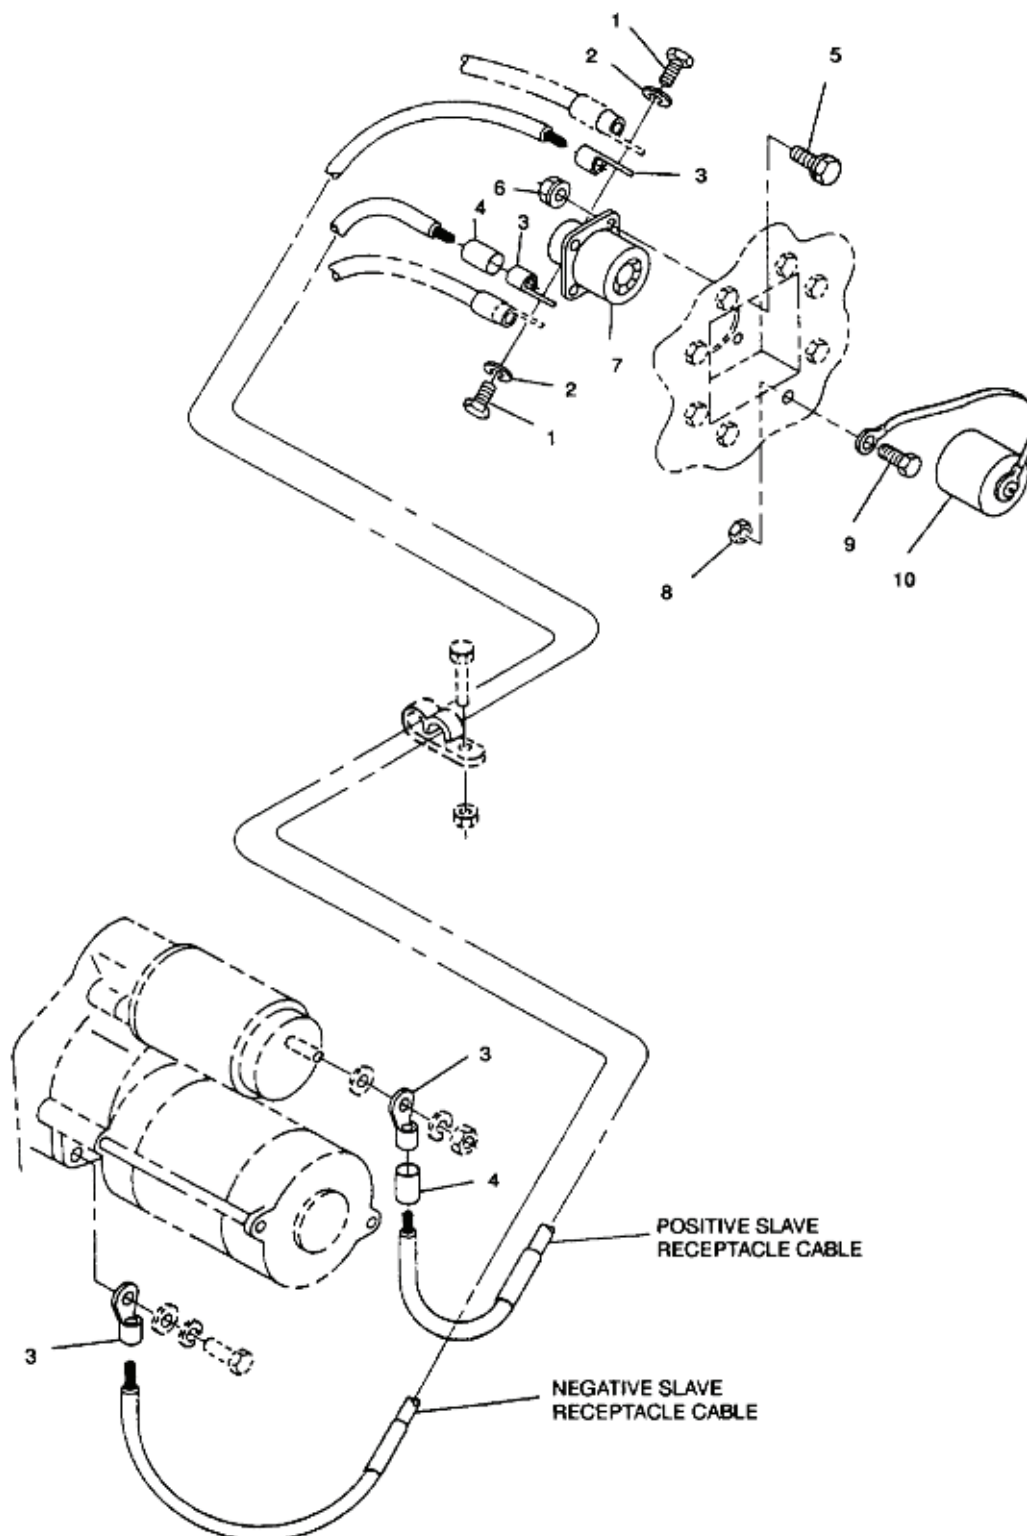

Figure 1. NATO Slave Receptacle and Cables.
3. Tag and disconnect battery and slave receptacle cables from slave receptacle (Figure 1, Item 7) by removing bolts (1) and lockwashers (2). Discard lockwashers (2).
4. Remove bolts (5), nuts (6), and NATO slave receptacle (7) from generator set housing.
5. Remove nut (8), bolt (9), and cover (10) from generator set.
1. Insert NATO slave receptacle (Figure 1, Item 7) into generator set housing.
2. Secure receptacle (7) with bolts (5) and nuts (6).
3. Connect slave receptacle and battery cables to slave receptacle (7) with bolts (1) and new lockwashers (2). Remove tags.
4. Install cover (10) on generator set with bolt (9) and nut (8).